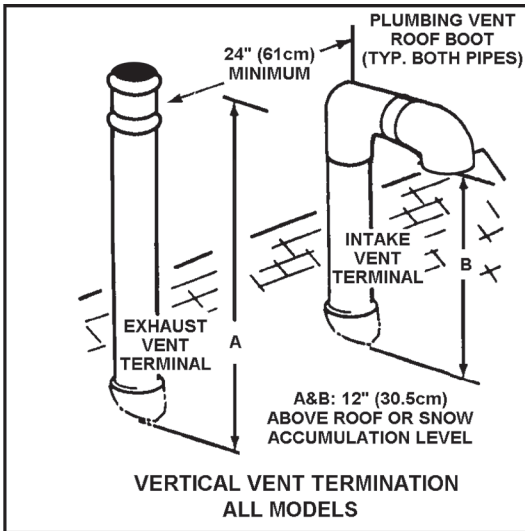
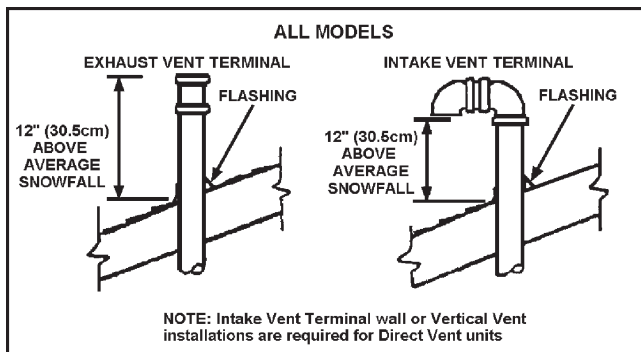

Figure 18
Figure 19
4. The center line of the air intake termination and the center line of the exhaust vent termination must be no closer than 24" (61cm). See Figure 18 and Figure 19.